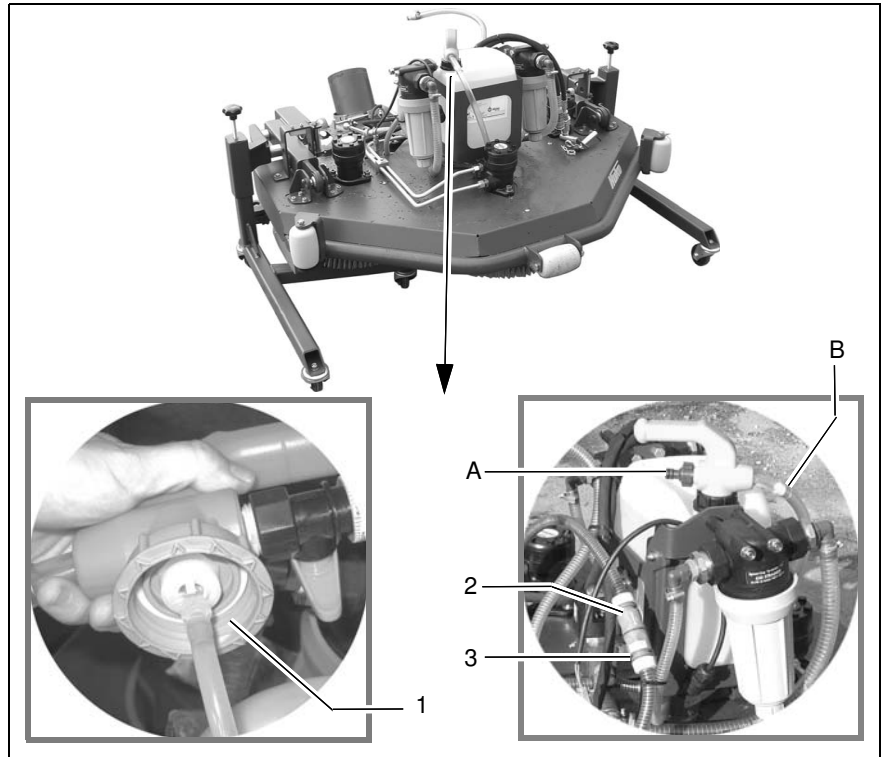

Fig.54
Separate the couplings (Fig. 54/2) and (Fig. 54/3). Connect the coupling (Fig. 54/2) to connection (A) for the chemicals dosing unit (optional). Connect the coupling (Fig. 54/3) to the connection (B) for the chemicals dosing unit.
In the intake hose for the chemicals container there is a nozzle (Fig. 54/1). The mixing ratio for the cleaning liquid is adjusted by selecting the nozzle. The various nozzles are found enclosed in a separate package.